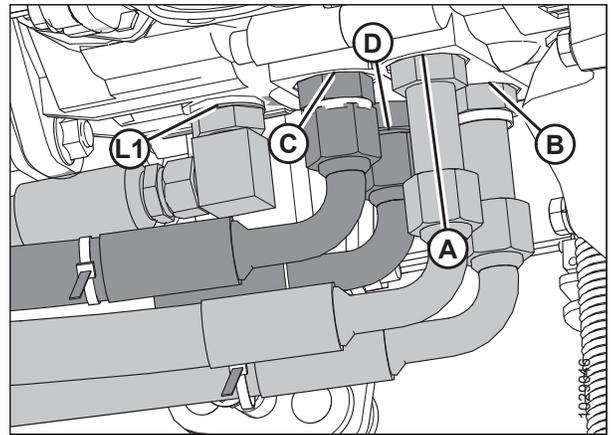

Figure 3.20: Model Year 2015 Connection at the Pump (View from LH Side Cab-Forward)
- Model year 2015: Refer to Figure 3.20, page 19. Five hoses attach to the bottom of the pump.